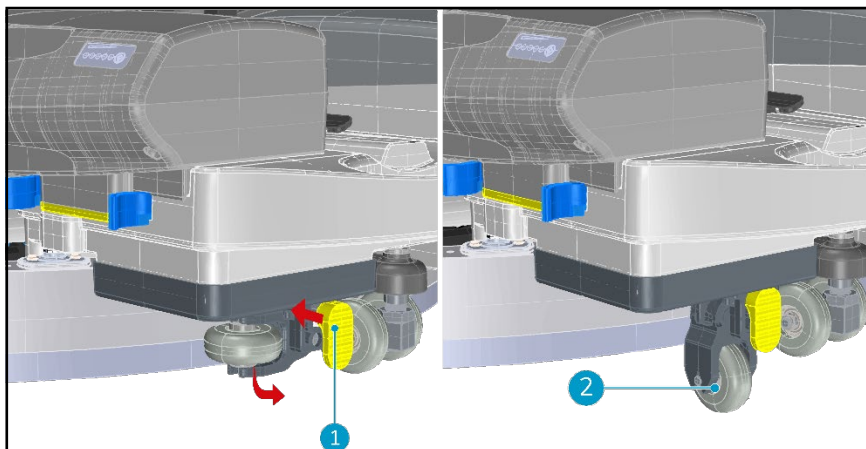

Figure 25
2. Push the lever (Figure 25, pos. 1) following the arrow .
3. Pull the lifter kit down. The wheel will go down (Figure 25, pos. 2).
1. To deactivate push the lever.(Fig. 25,1) The weight of the machine will push the lifter kit in.